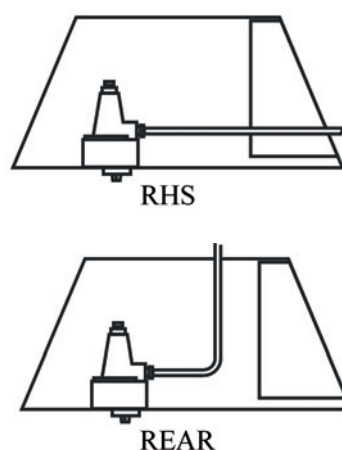

Figure 49
1. The gas supply can be fed into the firebox from rear or the right hand side (see **Figure 49**). Care should be taken to sleeve the pipe when passing through masonry.